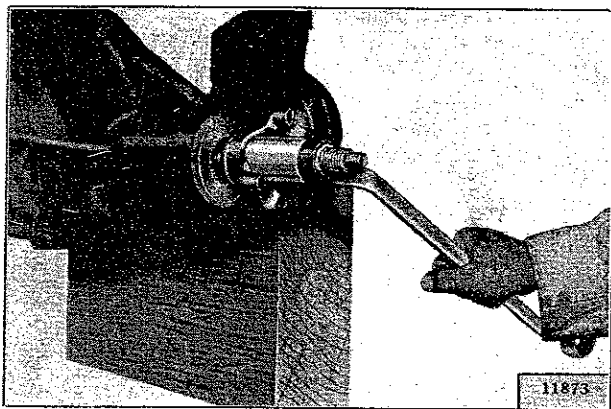

FIG. N-32—YOKE INSTALLING TOOL
q. Install the yoke with Flange Installer W-162, as shown in Fig. N-32.